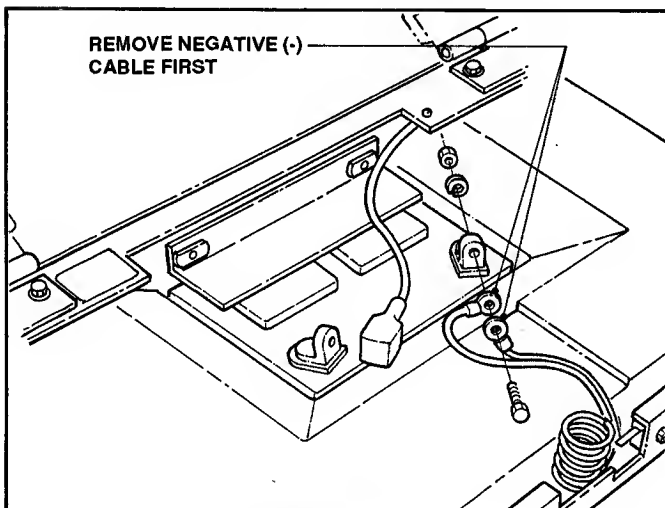

FIGURE 3.3A
1. Before activating the battery, remove it from the tractor. See Figure 3.3A. Never attempt to
8. Remove battery. See Figure 3.3A.